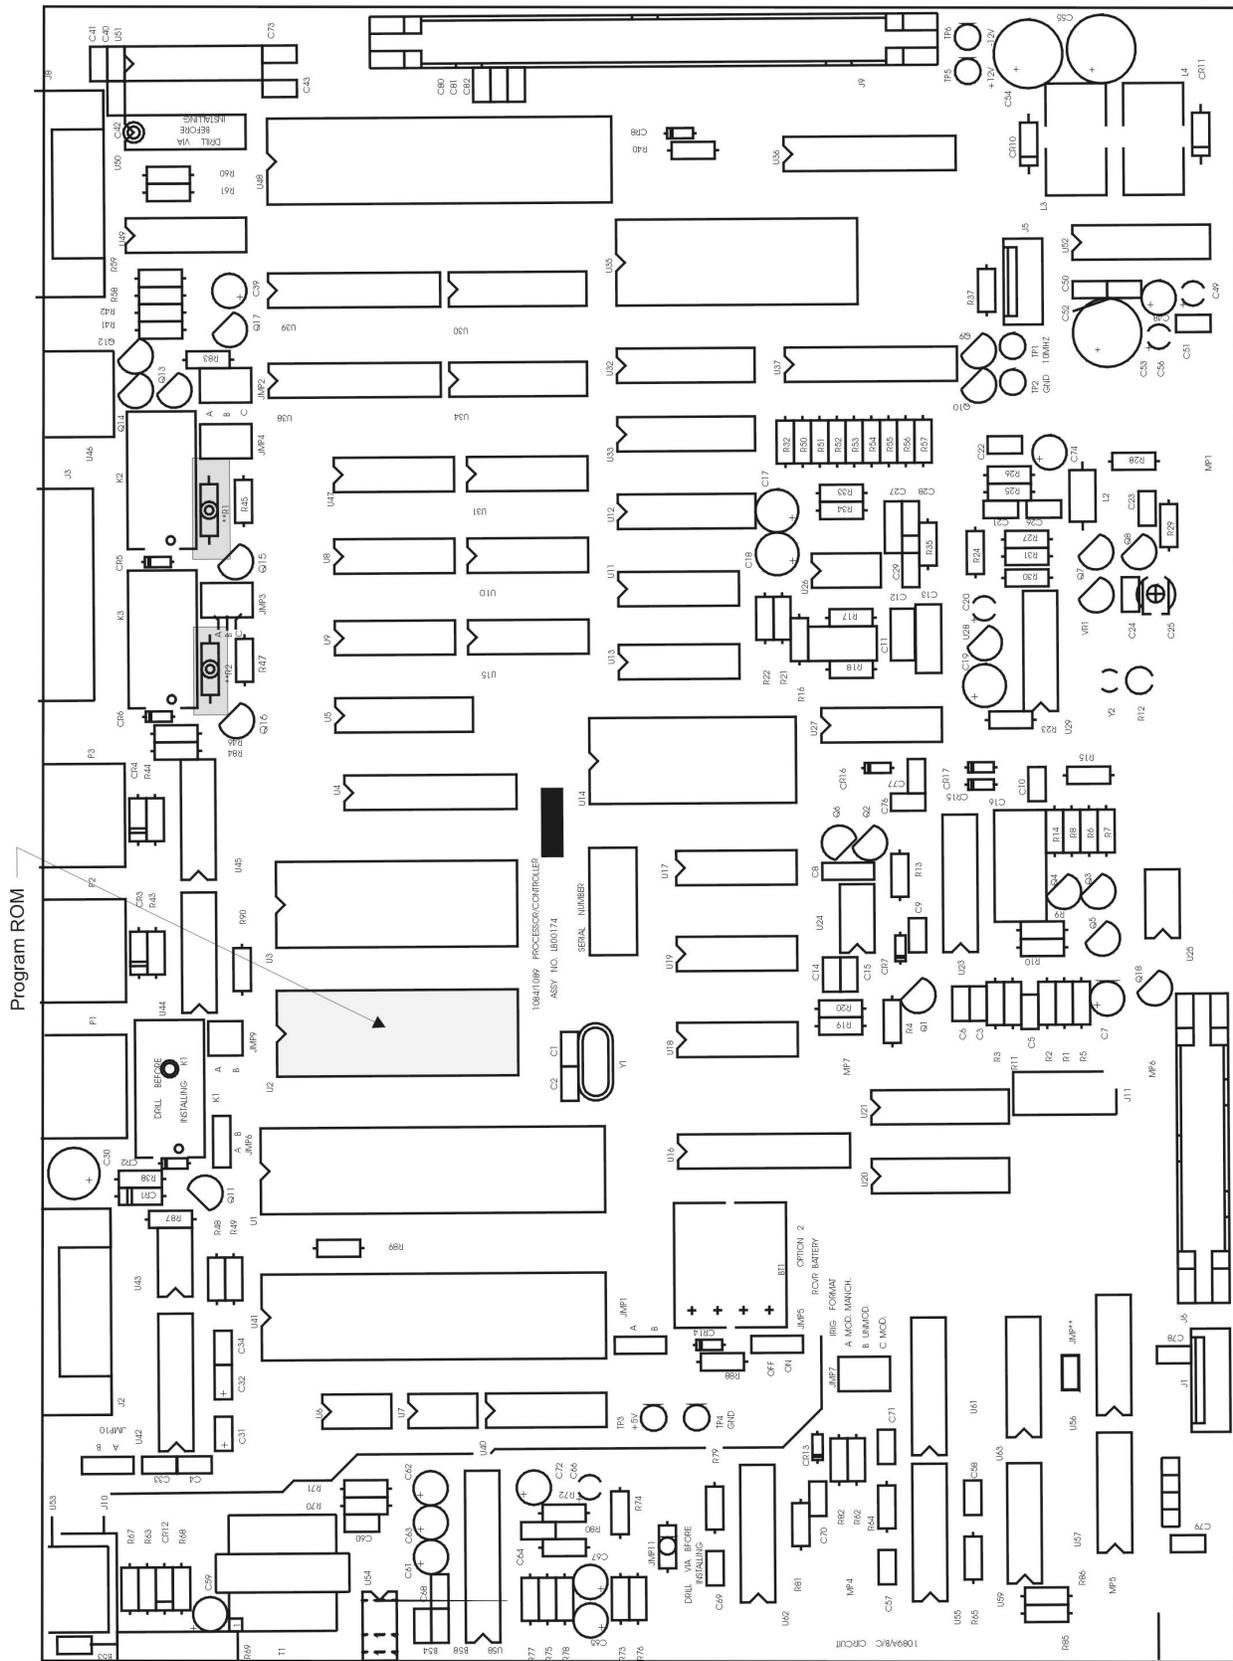

Figure 1: Model 1084 Main Board ROM Location
1. The program ROM is located at U2 (see Figure 1 on page 6).